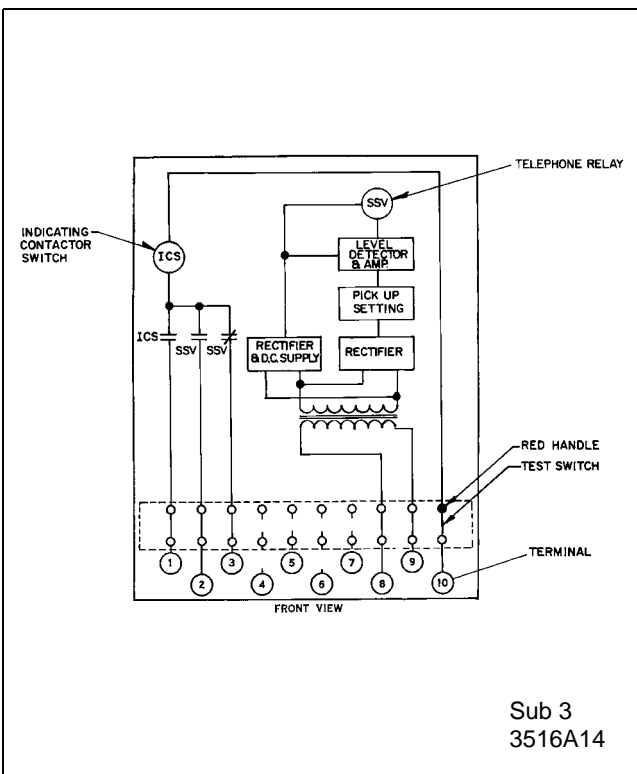
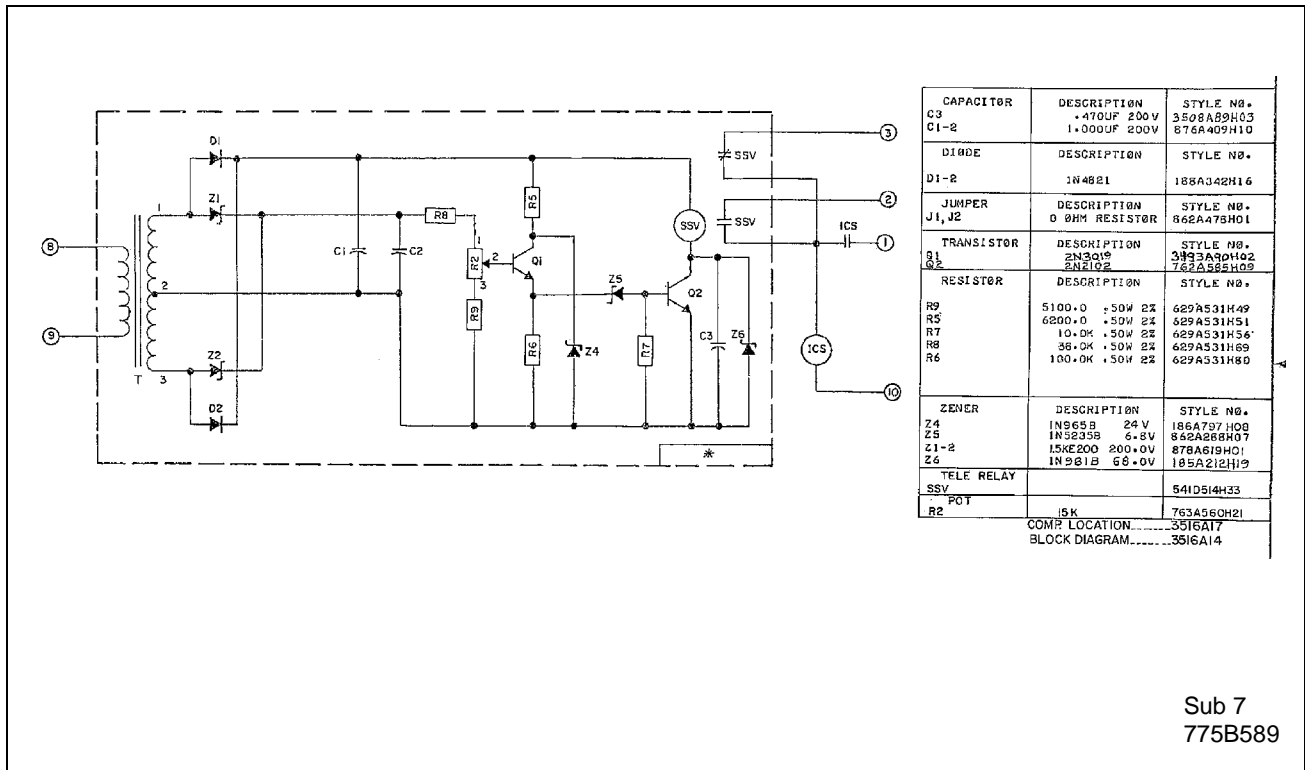

Figure 1: Block Diagram of the Type SSV-T Relay in the Type FT-11 Case
Figure 4: Internal Schematic of the Type SSV-T Relay
The block diagrams of the SSV-T and SSC-T are shown in Figures 1, 2 and 3 (page 4 and page 5) and the internal schematic are shown in Figures 4, 5, and 6 (page 5 and page 6). For overvoltage and overcurrent application, the transistor Q2 is normally not conducting and the telephone relay is de-energized. The transistor Q1 or current is applied to the primary of the transformer (T) a voltage is produced on the secondary side that is proportional to the input. The potentiometer (R2) is for the pick-up setting. If the voltage from rectifier (Z1, Z2, and C2) is large enough to exceed the breakdown voltage of zener diode Z5, the zener diode conducts to turn on the transistor Q2 and operate the telephone relay.